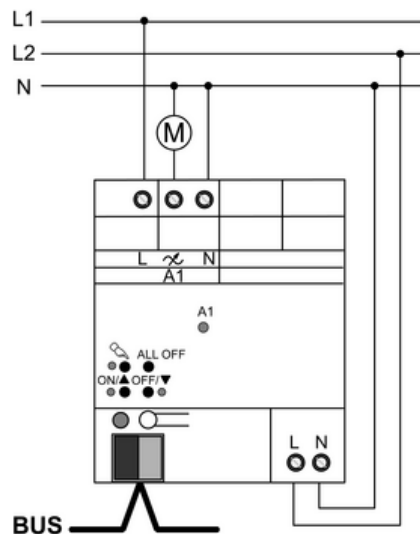

Figure 6: Dimmer actuator 1-gang – connection for speed controller operation
- Connect device as shown in the connection example (figure 6).